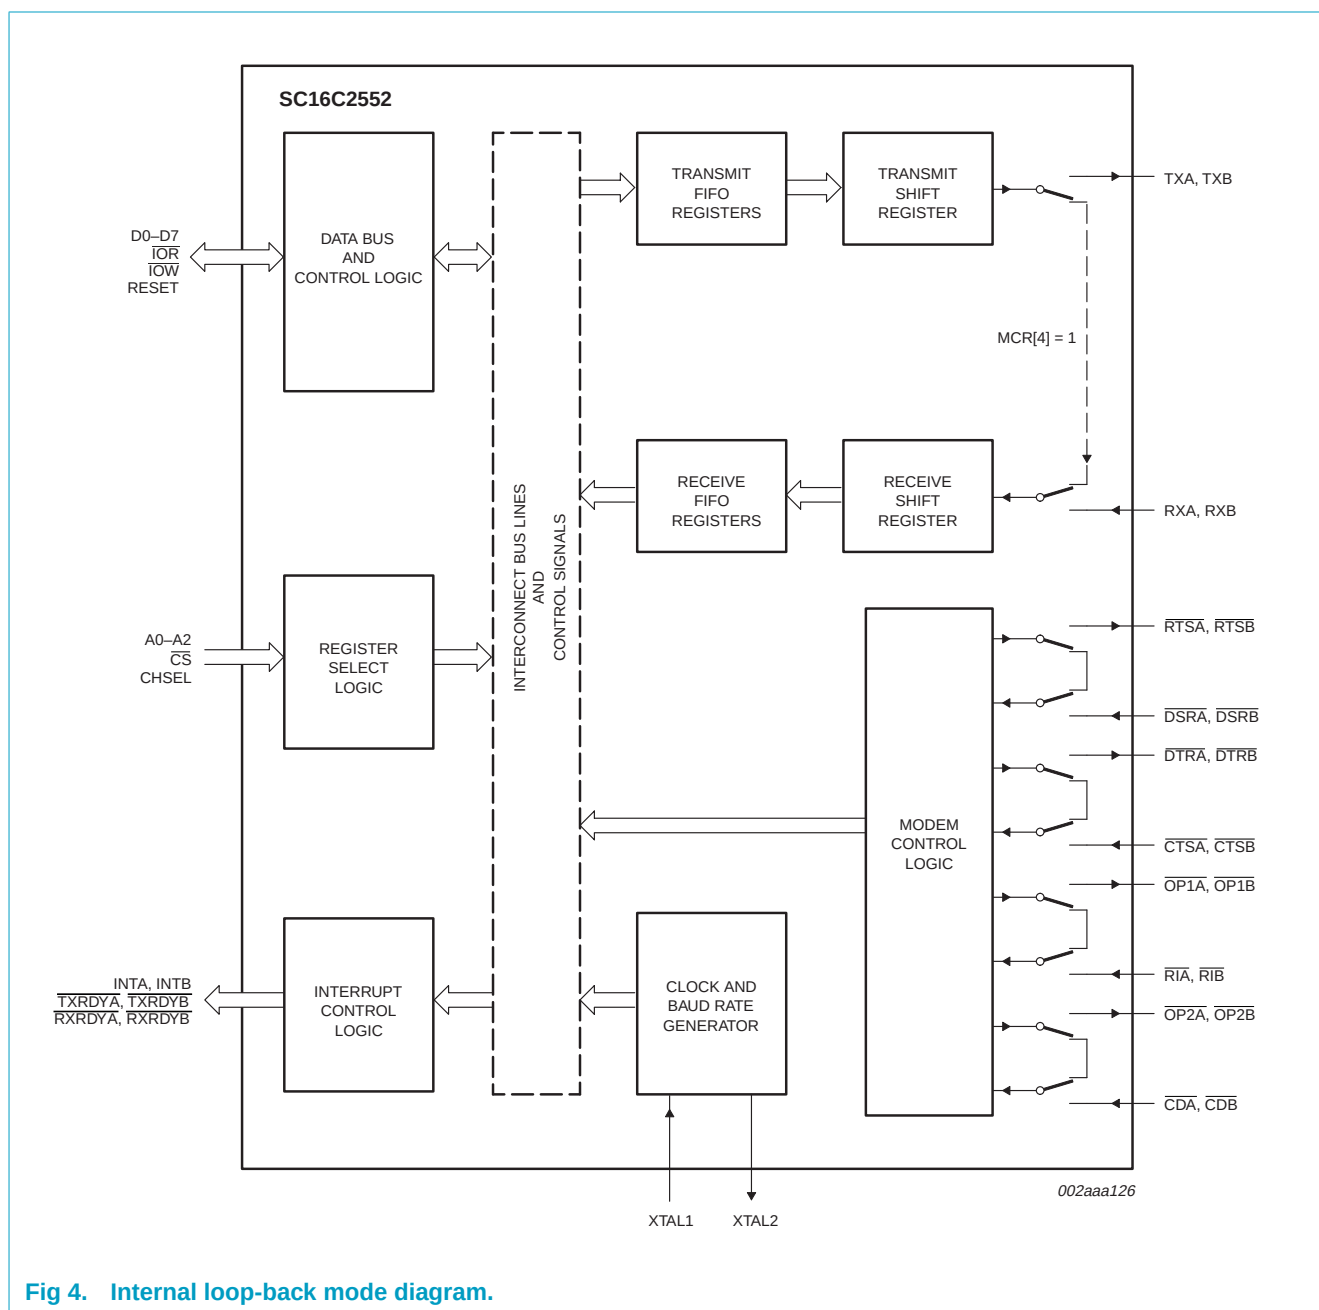

Fig 4. Internal loop-back mode diagram.
The internal loop-back capability allows on-board diagnostics. In the loop-back mode, the normal modem interface pins are disconnected and reconfigured for loop-back internally. MCR[0-3] register bits are used for controlling loop-back diagnostic testing. In the loop-back mode, INT enable and MCR[2] in the MCR register (bits 2-3) control the modem $\overline{RI}$ and $\overline{CD}$ inputs, respectively. MCR signals $\overline{DTR}$ and $\overline{RTS}$ (bits 0-1) are used to control the modem $\overline{CTS}$ and $\overline{DSR}$ inputs, respectively. The transmitter output (TX) and the receiver input (RX) are disconnected from their associated interface pins, and instead are connected together internally (see Figure 4). The $\overline{CTS}$, $\overline{DSR}$, $\overline{CD}$, and $\overline{RI}$ are disconnected from their normal modem control inputs pins, and instead are connected internally to $\overline{DTR}$, $\overline{RTS}$, INT enable, and MCR[2]. Loop-back test data is entered into the transmit holding register via the user data bus interface, D0-D7. The transmit UART serializes the data and passes the serial data to the receive UART via the internal loop-back connection. The receive UART converts the serial data back into parallel data that is then made available at the user data interface D0-D7. The user optionally compares the received data to the initial transmitted data for verifying error-free operation of the UART TX/RX circuits.